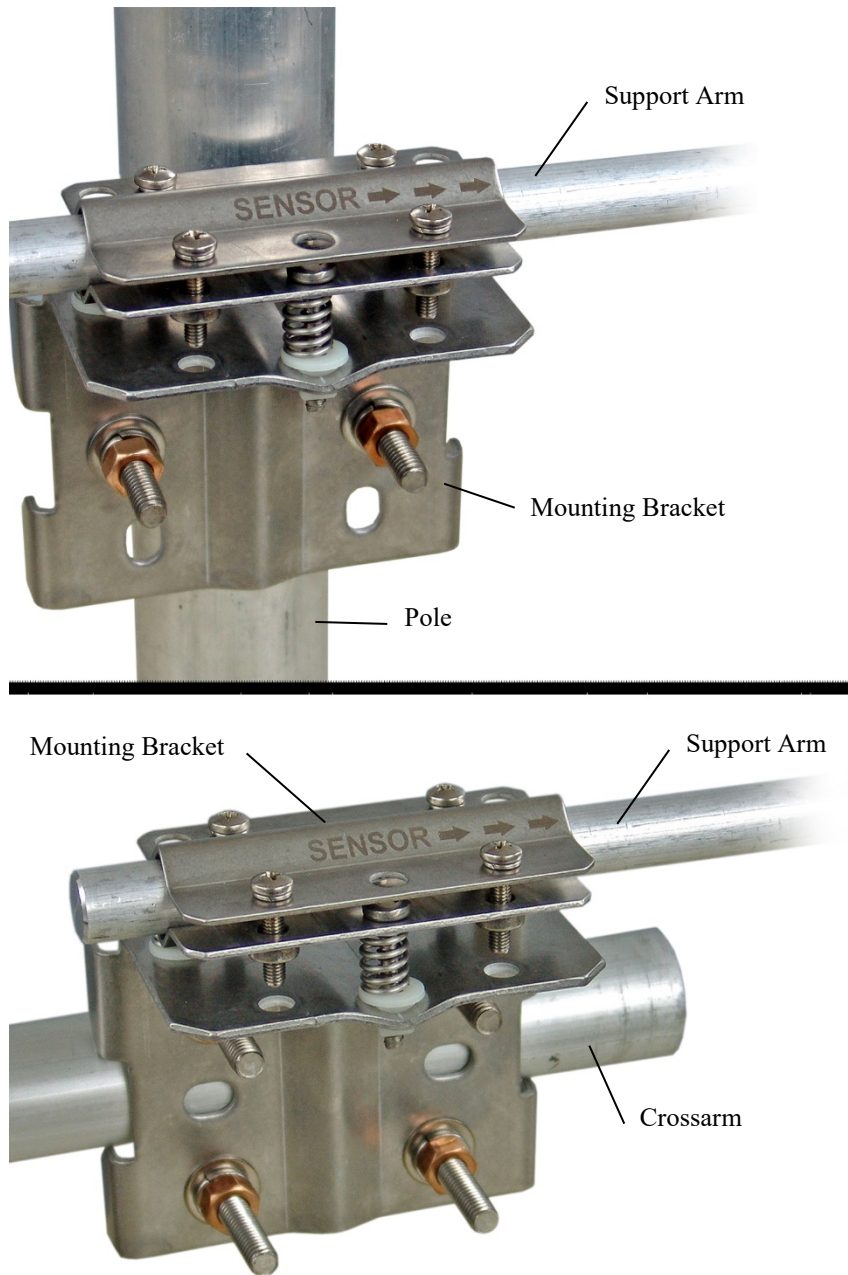

FIGURE 7-2. Mounting the NR-LITE2 onto a pole (top) and crossarm (bottom) via the Net Radiation Sensor Mounting Kit
2. Attach the mounting bracket to the vertical mounting pipe, or CM200-series crossarm using the provided U-bolt (FIGURE 7-2).
3. Insert the sensor support arm into the mounting block of the mounting bracket kit. Make sure the sensor points in the direction of the arrows that appear after the word **SENSOR** on top of the bracket (FIGURE 7-2).
5. Tighten the four screws on top of the mounting bracket to properly secure the support arm so that it does not rotate (FIGURE 7-2).
6. Perform the fine levelling using the two spring-loaded levelling screws—one on the front and the other on the back of the bracket (FIGURE 7-2).